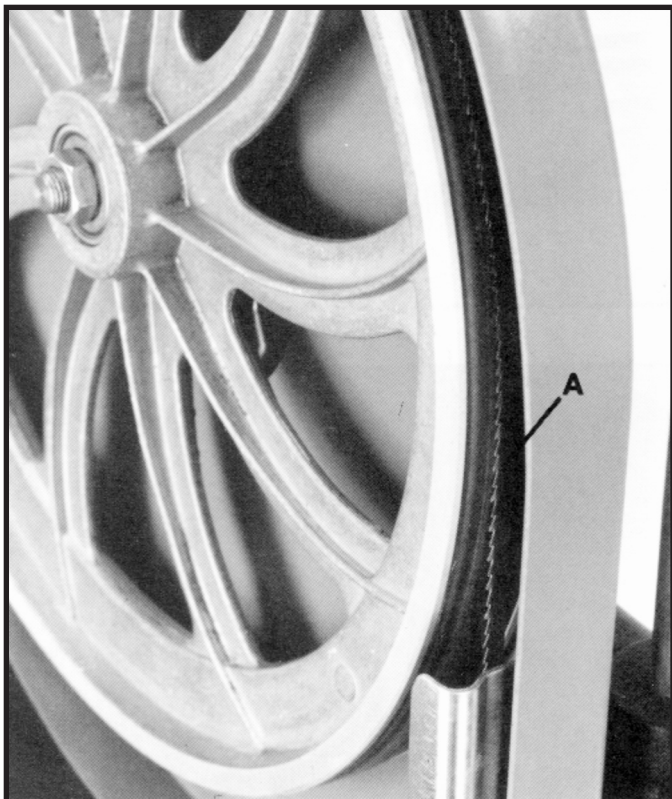
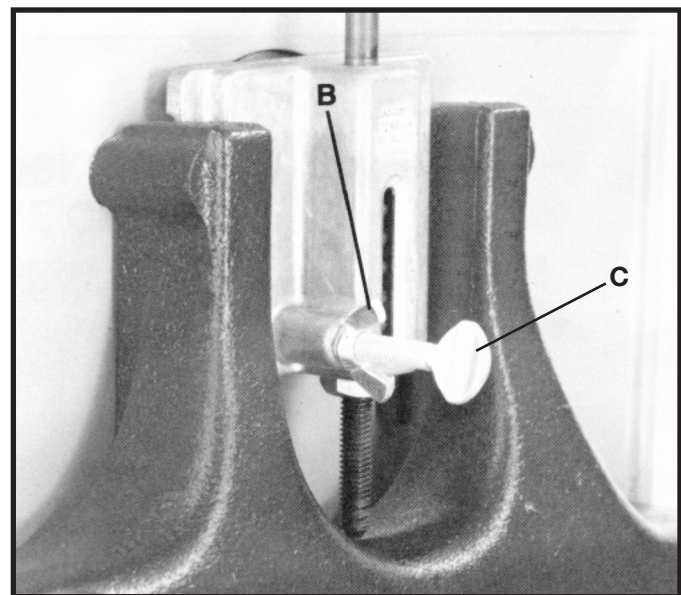

Fig. 22
Fig. 23
After tension has been applied to the blade, rotate the wheels slowly forward by hand and watch the blade (A) Fig. 22, to see that it travels in the center of the upper tire. If the blade begins to creep toward the front edge, loosen the wing nut (B) Fig. 23, and tighten the thumb screw (C). This will tilt the top of the wheel toward the back of the machine and will draw the blade toward the
center of the tire. If the blade creeps toward the back edge, turn the thumb screw in the opposite direction. Adjust the thumb screw (C) Fig. 23, only a fraction of a turn at a time. **NEVER TRACK THE BLADE WHILE THE MACHINE IS RUNNING.** After the blade is tracking in the center of the tires, tighten the wing nut (B) Fig. 23.